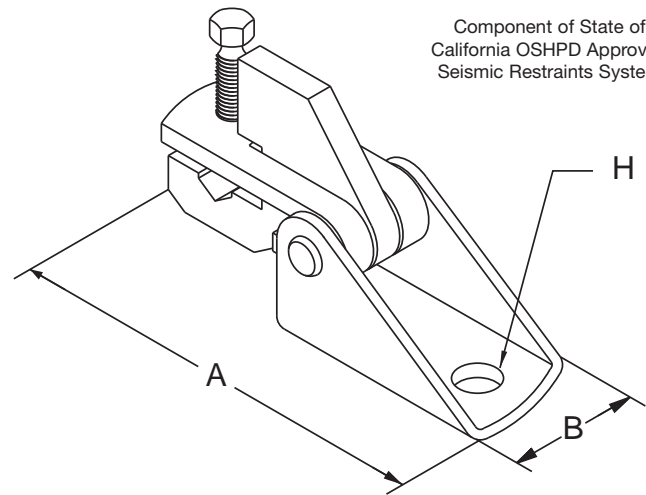

## Fig. 980 - Universal Swivel Sway Brace Attachment
**Installation** — The Fig.980 is the structural or transitional attachment component of a longitudinal or lateral sway brace assembly. It is intended to be combined with the "bracing pipe" and TOLCO "braced pipe" attachment, Fig. 1000, 1001, 2002, 4L, 4A or 4B to form a complete bracing assembly. NFPA 13 and/or OSHPD guidelines should be followed.
**To Install** — Place the Fig. 980 onto the "bracing pipe". Tighten the set bolt until set bolt head breaks off. Attachment can pivot for adjustment to proper brace angle.
**Note** — The Fig. 980 Swivel Attachment and the Fig. 1001, Fig. 1000, Fig. 2001 or Fig. 4A Pipe Clamp make up a sway brace system of **UL** Listed attachments and bracing materials which satisfies the requirements of Underwriters' Laboratories and the National Fire Protection Association (**NFPA**)